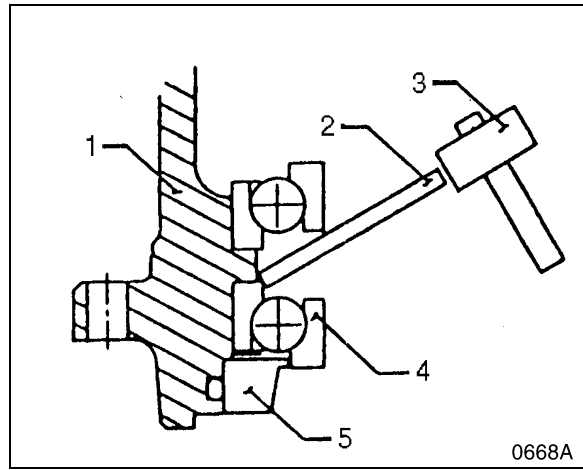
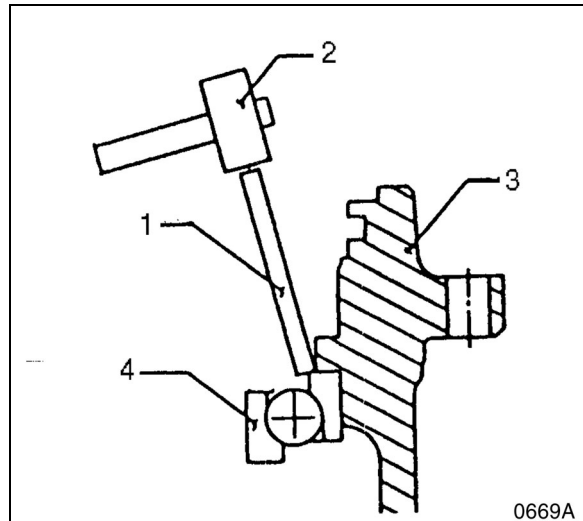

Figure 52
Figure 53
6. Place the hub (1, Figure 13) on top of the work bench, with the hub cover facing up. Remove the sealing ring (23). If the inner or outer ball bearings (24) show any evidence of pitting, abnormal wear or damage, one or both bearings must be removed from the hub and replaced. See Figure 52 and Figure 53. If bearings do not require replacement, leave them in place. Bearings must be heated in an oil bath to at least 100°C (212°F) before installation.